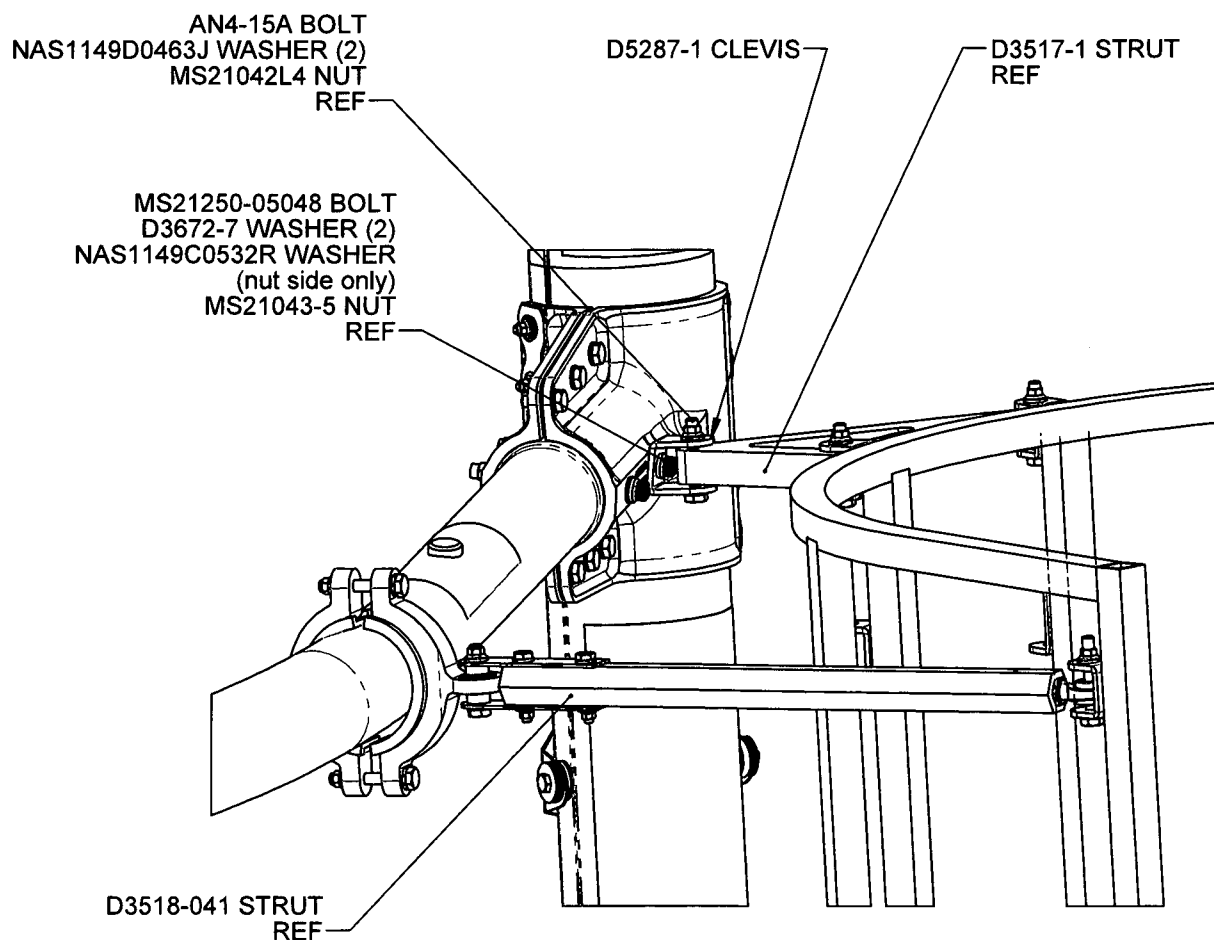

FIGURE 1: CLEVIS/STRUT INSTALLATION
The D119-756-011 Clamp Kit is replaced with the D119-756-111 Clamp Kit (D5283-041/-7/-043/-11 Clamps). The parts list for the D119-756-111 Clamp Kit is shown on sheet 4 of this service instruction. Install the Clamp Kit as shown in Figures 1 and 2 of this service instruction. These parts have been added to D119-756-041 Baskets @ CHG 005 and later.
The DSI 9729-011 Clevis Kit replaces the D3516-11 Clevis and D3520-3 Spacer mounted on Dart Skidtube saddles. The parts list for the DSI 9729-011 Clevis Kit is shown on sheet 4 of this service instruction. Install the Clevis Kit as shown in Figure 1 of this service instruction.
- 4.4 Mount the D3517-1 Struts assembled on the basket to the D5287-1/D3156-11 Clevis mounted on the Skidtube saddles and secure using AN4-15A Bolts, NAS1149D0463J Washers (2) and MS21042L4 Nuts as shown in Figure 1.
- 5.2 Install qty (2) D5287-1 Clevis using the retained fasteners as per Figure 1. Assemble with the D3672-7 phenolic washer between the Clevis and the Saddle.